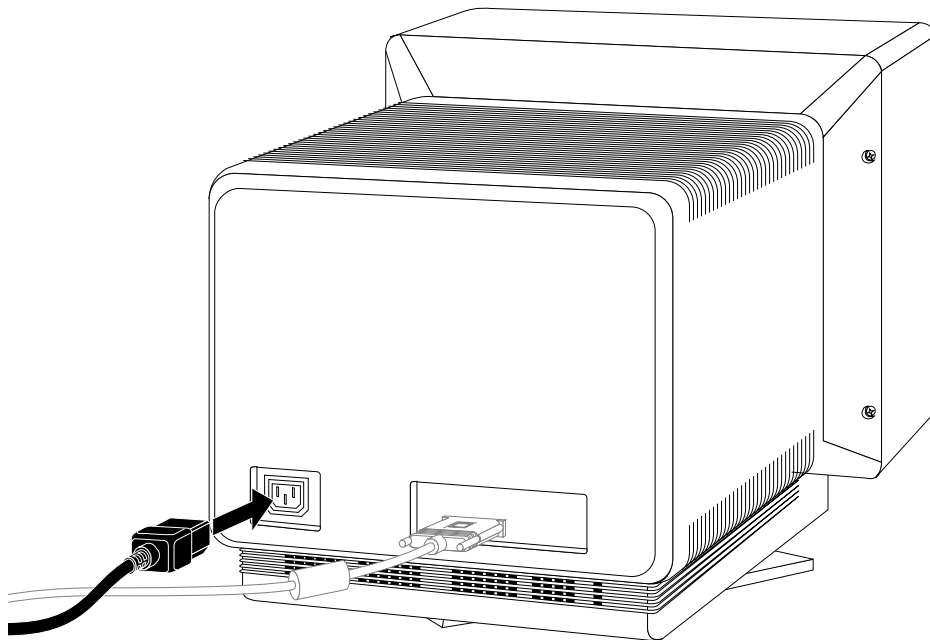

Figure 2-19 Attaching the Power Cable to the Monitor
1. Connect one power cable to the monitor, as shown in Figure 2-19.